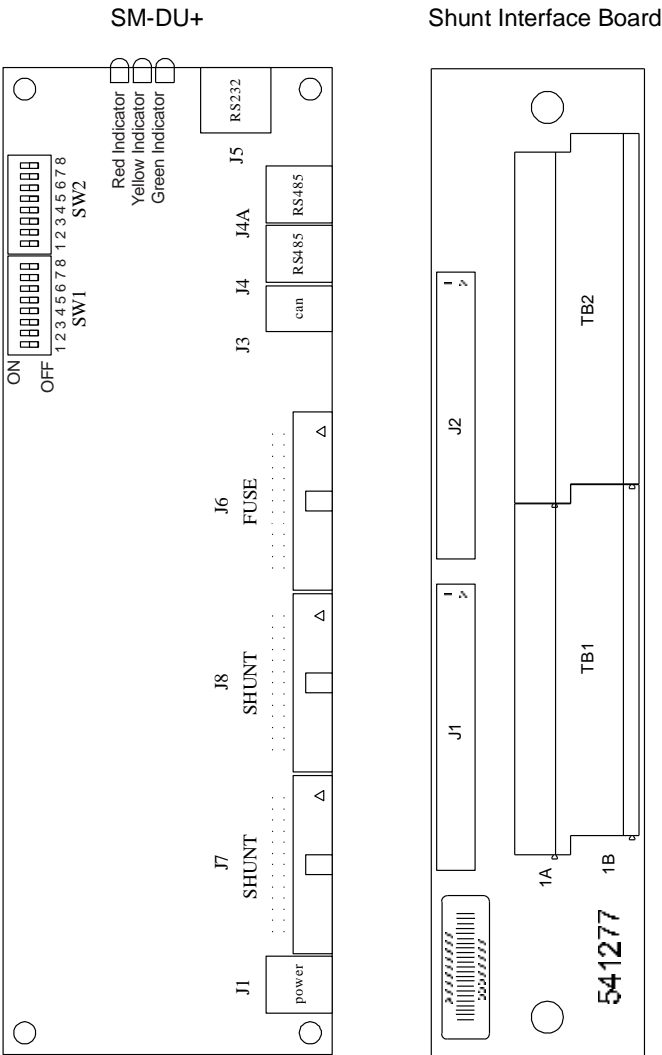

Figure 4-13
- 4) Carefully label the wires connected to the shunt input terminal blocks on circuit card. These wires must be connected to the same terminals on the replacement circuit card. Refer to Figure 4-13.
- 5) Carefully label the connectors plugged into the circuit card. These connectors must be plugged into the same connectors on the replacement circuit card. Refer to Figure 4-13.